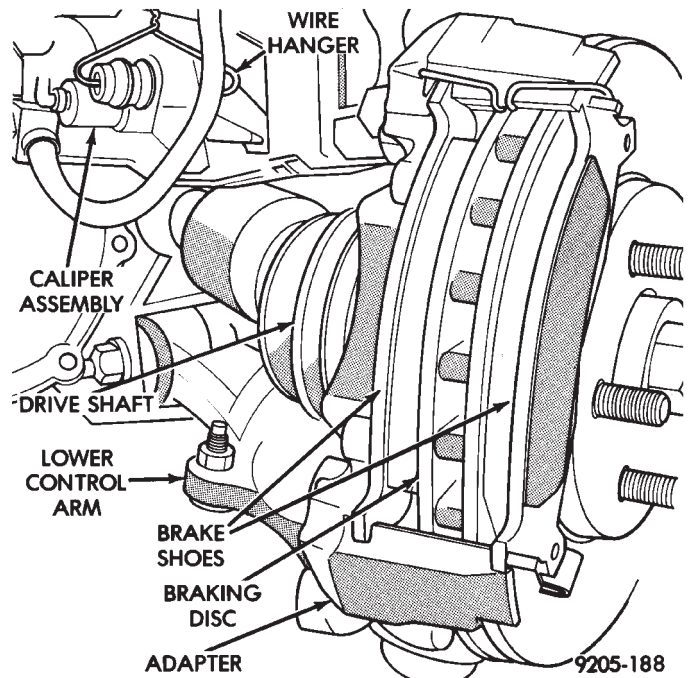

Fig. 4 Storing Caliper
(6) Support caliper firmly to prevent weight of caliper from damaging the flexible brake hose (Fig. 4).